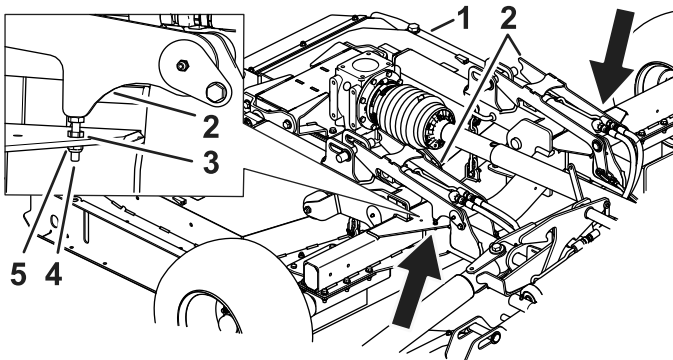

Figure 85
1. Loosen the jam nut (Figure 85).
2. Adjust the bolt up or down to correct the deck lock location for latching the deck pins (Figure 85).